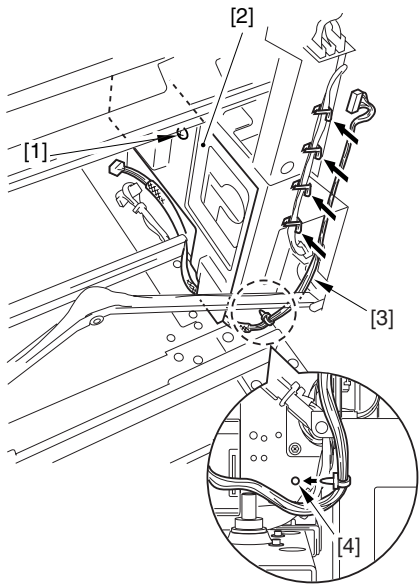

Figure 3-6
- 7) Remove the screw [1], and detach the cover [2] from inside the finisher. First, fit to secure the tie-wrap of the finisher harness unit [3] (INCLUDED) into the mounting hole [4] found in the rear side plate, and attach the cover [2] so that the harness unit will be protected from the moving parts (e.g., saddle unit) located inside the finisher. Route the harness unit as shown in Figure 3-6, and connect the connector of the harness to the connector J130 [6] of the finisher controller PCB [5].